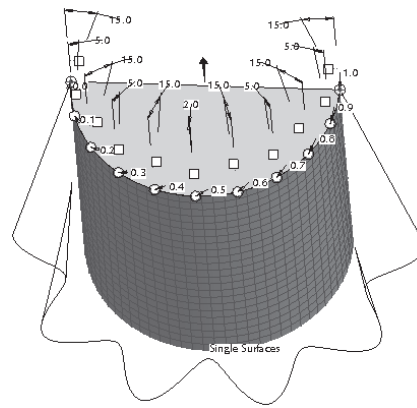

Figure 7-73 Location points with modified angle values
12. Double-click on the value of the angle that corresponds to the location **0.1** (these values appear above the model and have a default value of 1.0). The edit box appears; enter a value of **5**. Similarly, vary the angle at other locations. Every alternate location should have an angle of **15**. Figure 7-73 shows the preview of the model after modifying the values of the angle at all eleven locations.